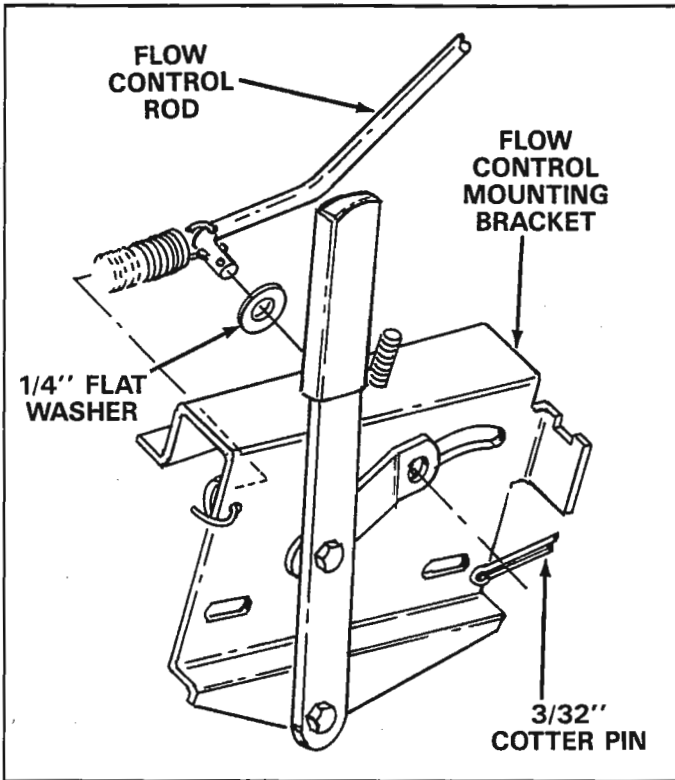

FIGURE 12
- Place 1/4" flat washer on end of flow control link, align with slot in flow control mounting bracket and insert end of flow control rod through slot and hole in flow control link. Secure with 3/32" cotter pin. See figure 12.